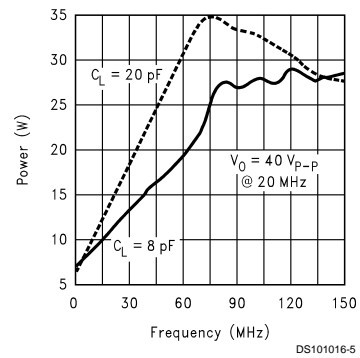

FIGURE 6. Power Dissipation vs Frequency
*Figure 6* shows the total power dissipation of the LM2402 vs. Frequency when all three channels of the device are driving both an 8 pF load and a 20 pF load. This graph gives the designer the information needed to determine the heat sink requirement for his application. The designer should note that if the load capacitance is increased the AC component of the total power dissipation will also increase as shown in *Figure 6*. The designer should also remember that the actual video signal has a period of around 70% to 75%. The remainder of the time the video signal is inactive, or at the black level (below the black level if blanked). During this time the LM2402 will be at the black level, or below, dissipating under 4W. Referring to *Figure 14* and using an input black level voltage of 1.9V, the power dissipation during the inactive video time is 3.8W, including both the 80V and 12V supplies.
The LM2402 case temperature must be maintained below 100°C. Assume the worst case operating condition is a 100 MHz square wave during active video (a pixel clock of 200 MHz with one pixel on, one pixel off). From *Figure 6* one can see that the power dissipation of the LM2402 is 28W if the 100 MHz square wave is applied all the time. One must also compensate for the inactive period of video. From *Figure 14* it has been calculated that the power dissipation during the inactive video is 4W. Therefore there is an additional 24W of power dissipation due to the AC signal. Assume that the AC signal is active 72% of the time. Now the AC power dissipation is: